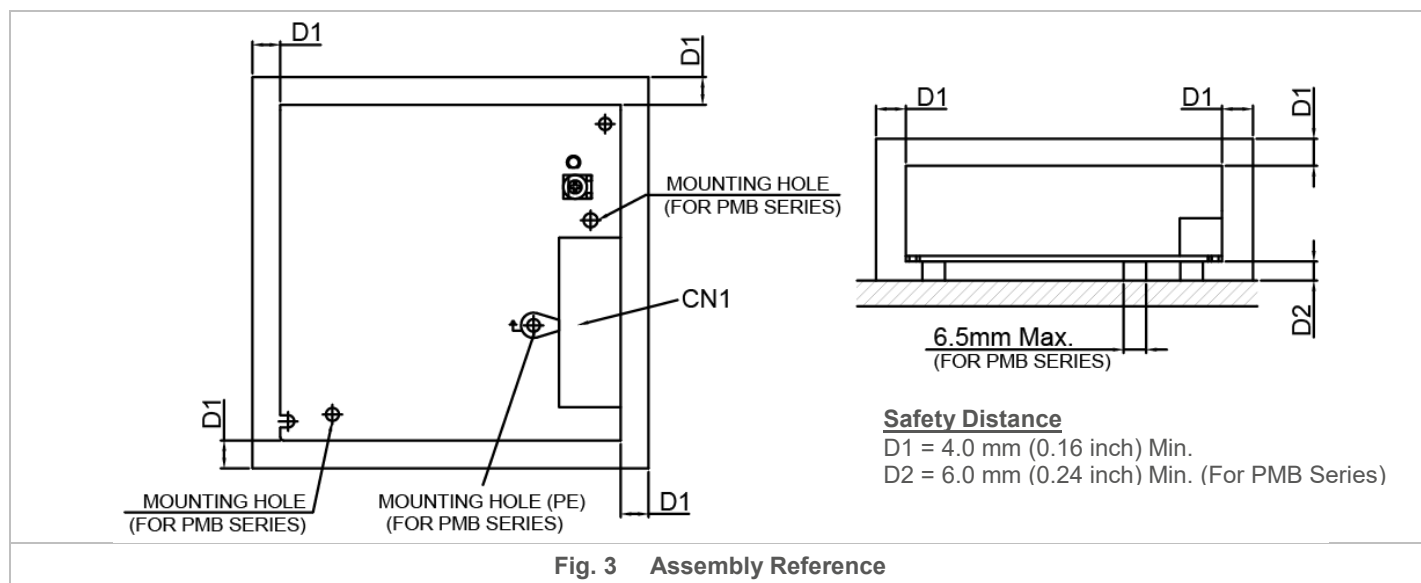

Fig. 3 Assembly Reference
- **PM□-24V50W1AA□ / PM□-24V50W1AG:** Use flexible cable (stranded or solid) of AWG No. 22-12. User should calculate and select the suitable wire specification (type/quantity/diameter) according to actual output current. The torque at the Connector shall not exceed 13 Kgf.cm (11.23 lbf.in). The insulation stripping length should not exceed 0.275" or 7 mm (Refer to Fig. 3).
- **For PMB Series: (Refer to Fig. 3):** The mounting holes on any mounting accessories for the device should be kept at a diameter of < 6.5 mm (0.26 inch). This is to ensure sufficient safety distance between the mounting screw and the components around the mounting holes on the PCBA. Therefore, the diameter of the mounting screw should be kept at < 6.5 mm (0.26 inch).